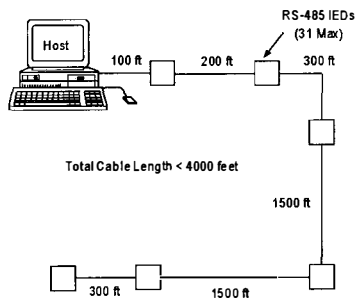

Figure 11. Network illustrating Modbus Rule 7.
7. A single RS-485 network may have no more than 4000 feet of cable (total cable length, not distance between IEDs). Figure 11 illustrates this rule.